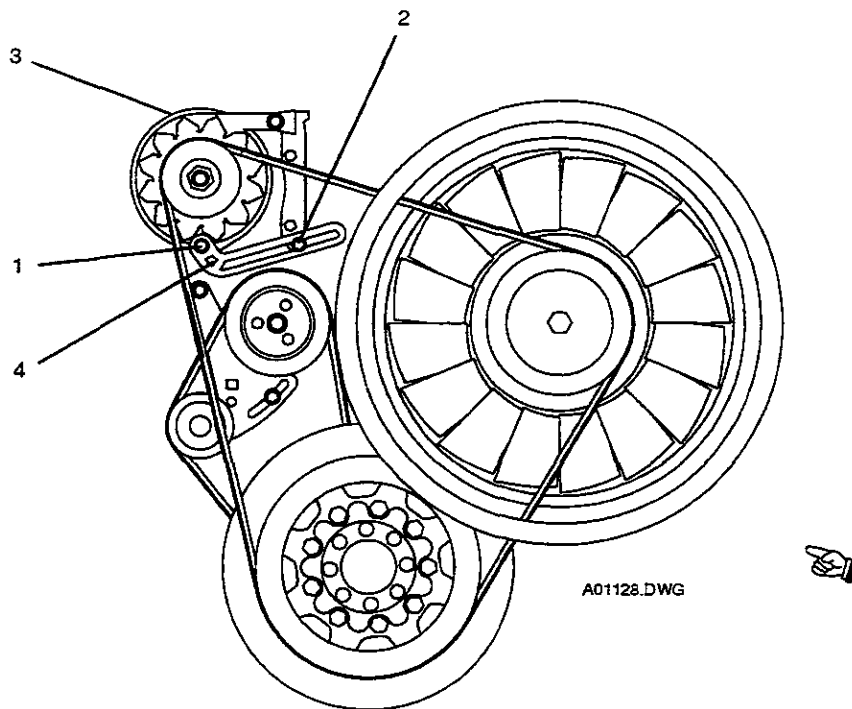

FIGURE 1. ALTERNATOR BELT ADJUSTMENT POINTS
- (1) Loosen mounting bolt (1, Figure 1), adjusting bracket bolt (2).
- (2) Insert square wrench (3/8" drive ratchet) in square (4).
- (3) Adjust alternator (3) in or out to achieve correct adjustment.
- (4) Tighten adjusting bracket bolt (2). Tighten mounting bolt (1). Remove warning tag. Return unit to service.